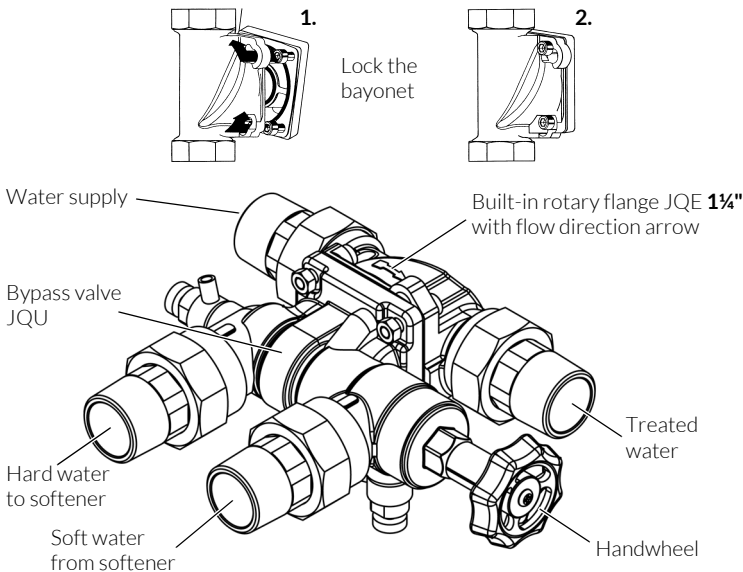

Fig. 4: Built-in rotary flange and bypass valve
- / Connect the bypass valve to the built-in rotary flange by engaging the bayonet fitting (see fig. 4). Observe the flow direction arrow on the built-in rotary flange! The handwheel of the bypass valve must be positioned to the side that is opposite to the water supply.